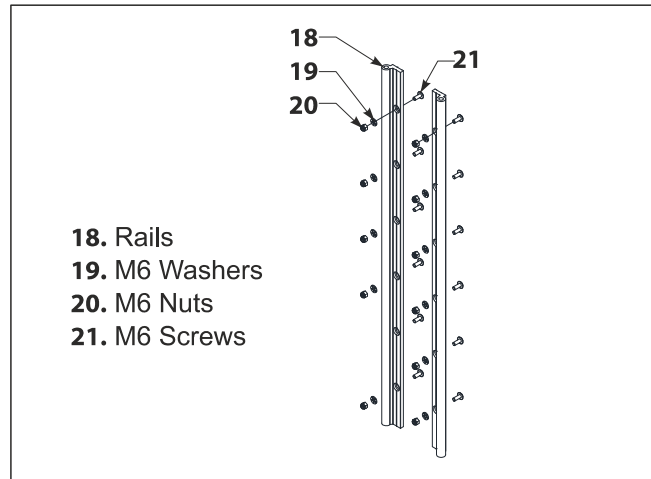

Figure 6-13. Rails Removal
1. On manual tray rails (18) see Fig. 6-13 (768 mm long): insert 1 pad per rail (UPPER PADS) and install it on platform with M6 screws (21), washers (19), and nuts (20). Do not tighten nuts at this step (to allow adjustment).